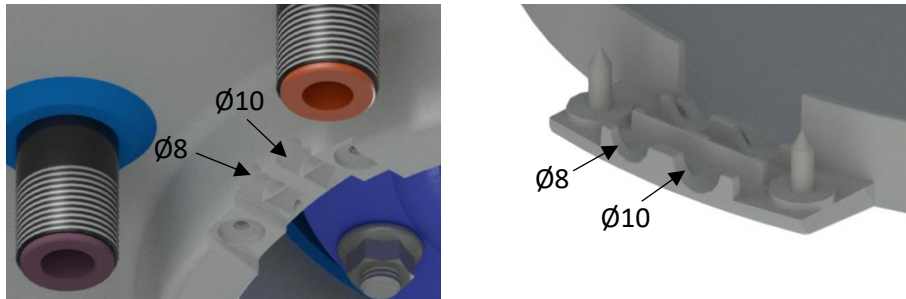
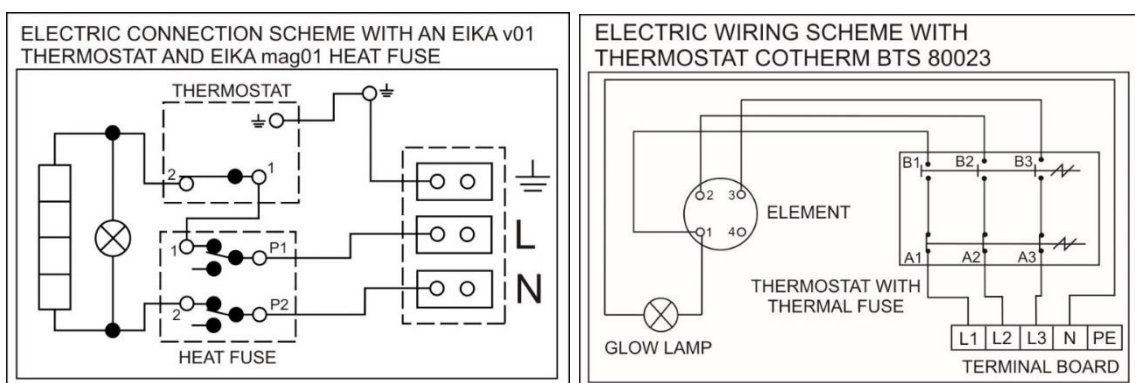

Figure 6
Figure 7
Perform the connection according to the scheme. Factory connection must not be changed! (Figure 7) the electric wiring casing remove the partition corresponding with the input wire diameter of  $\varnothing 8$  or  $\varnothing 10$  (Figure 6). The degree of protection of electric parts of the heater is IP 44. Power input of electric element is 2000 W and 4000 W.
- The electric wiring scheme is attached to the water heater on the side of the electric installation guard (Figure 7)